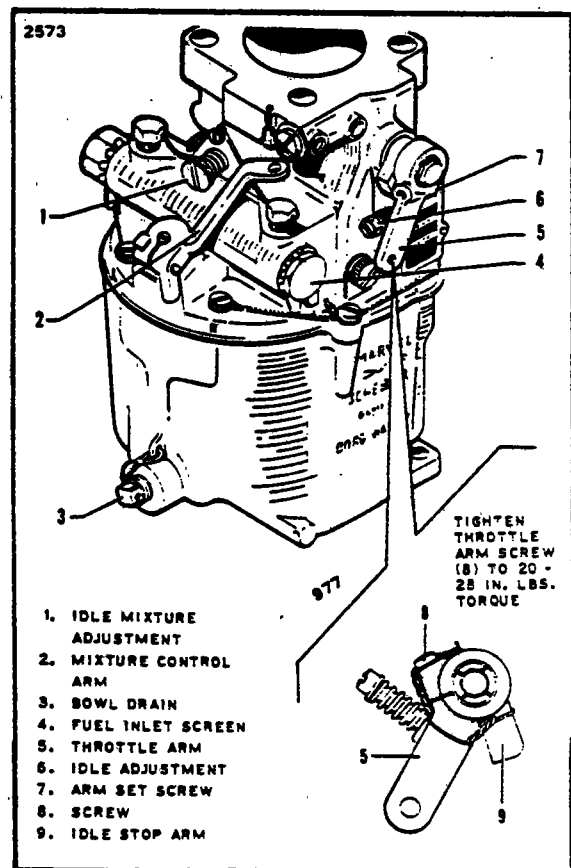

Figure 8-12. Carburetor
**8-32. INSPECTION OF MAGNETOS. (Refer to Figure 8-12.)** At time of engine inspection or when a magneto has been removed from the engine, the following checks may be performed.